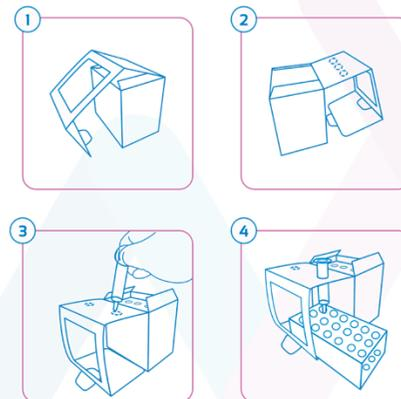

Figure 1 Graphic instructions to use column box as well as rack, avoiding to get a specific column rack in the laboratory and facilitating the protocol.
- Place the column in a rack and level it, make sure the column is vertical. Column box can be used as a rack, as shown in figure 1.